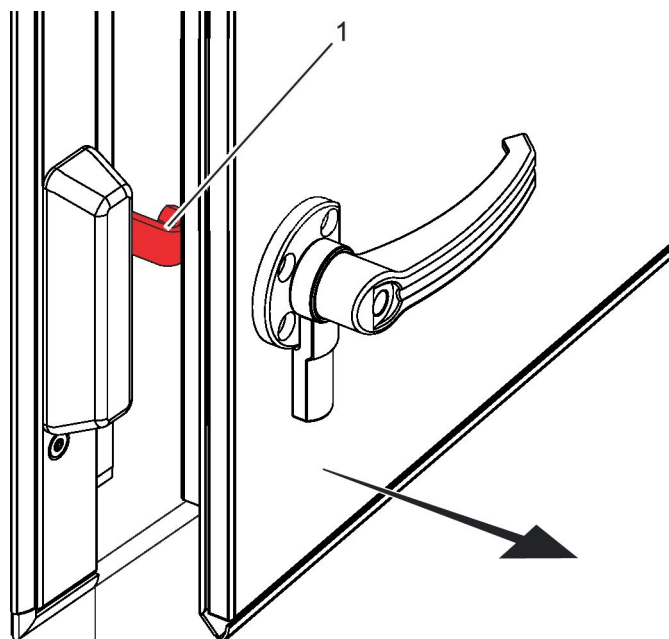

Fig. 18: Safety catch
2. ▶ Carefully open the inspection access door until it is caught by the safety catch (Fig. 18 /1).